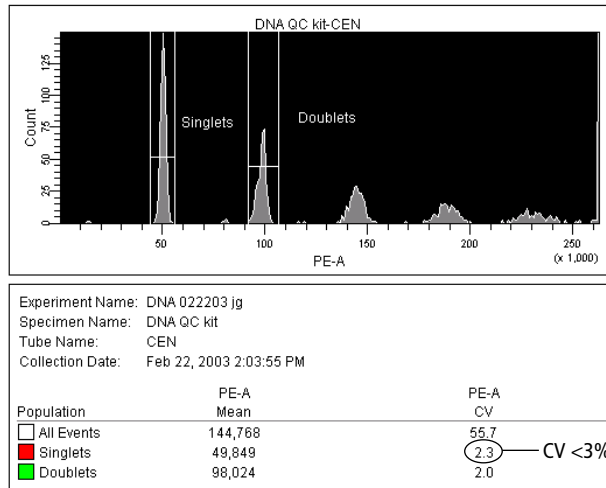

Figure 6-3 Defining Singlet and Doublet populations
- 7 Draw an Interval gate around the first two peaks on the PE-A histogram; name the populations *Singlets* and *Doublets* (Figure 6-3).